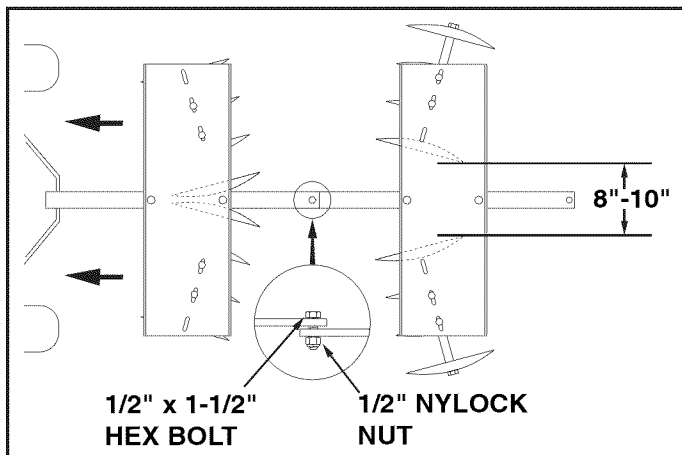

FIGURE 8
- To use two cultivators in tandem, the disc assemblies should be positioned as shown in figure 8, with the inside discs almost touching on the front cultivator and 8" to 10" apart on the rear cultivator. With this arrangement the front cultivator will throw the dirt to the outside and the rear cultivator will throw the dirt back to the inside.